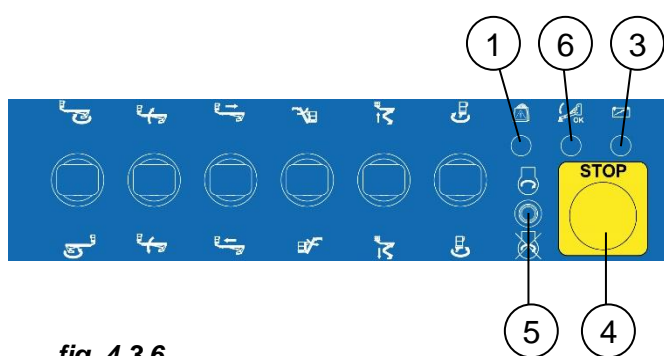

fig. 4.3.6
4. Move the boom by first moving the desired control lever and then move the proportional lever gradually (*pos. 2 fig. 4.3.6*)
|  | ATTENTION: the power on indicator light (pos. 3 Fig. 4.3.6) on the work platform control panel must be lit. |
|  | ATTENTION: the machine has a platform load check device. If the load exceeds the permissible load capacity, the "overload" indicator (pos. 1 fig. 4.3.6) lights up, a buzzer sounds and all controls are deactivated. When the excess weight is discharged from the work platform, the controls automatically reactivate and the alarms switch off. |
|  | NOTE: if you wish to switch off the engine once you have reached the work position, press the emergency stop button (pos. 4 fig. 4.3.6). The engine switches off. To restart the engine, rotate the emergency stop button and then press the start button (pos. 5 fig. 4.3.6). |
5. Check that the green light on the stabilisers switches off (*pos. 6 fig. 4.3.6*).